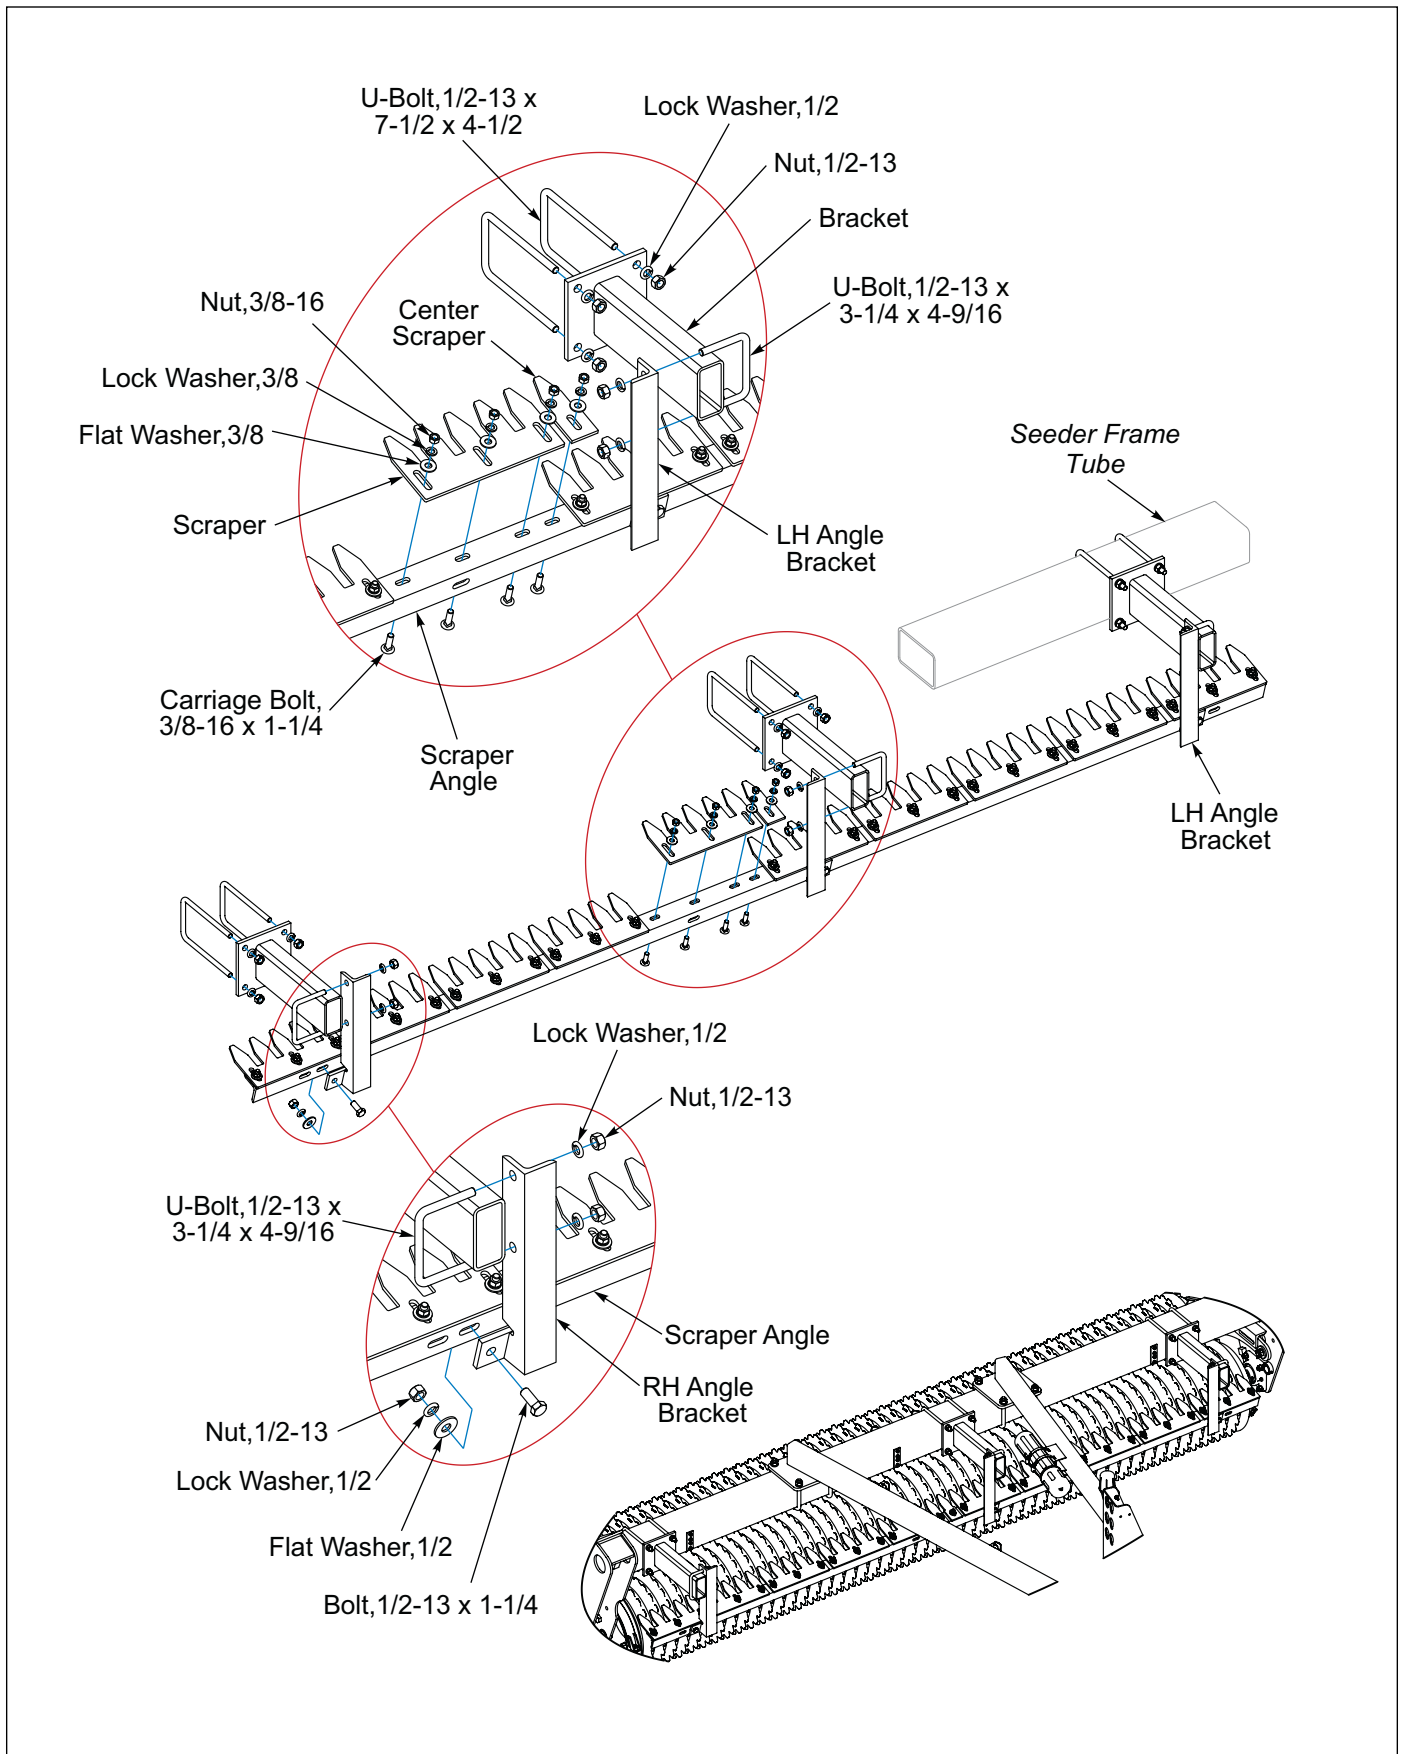

Figure 2-29: Scraper Kit
1. Assemble Brackets to the front of Seeder Frame Tube with 1/2-13 U-Bolts, Lock Washers and Nuts except for the 12FT Drawbar Seeder where you mount the Bracket to the Brace Plate with the Brace Hardware. **Do not** tighten at this time. See Figure 2-29.